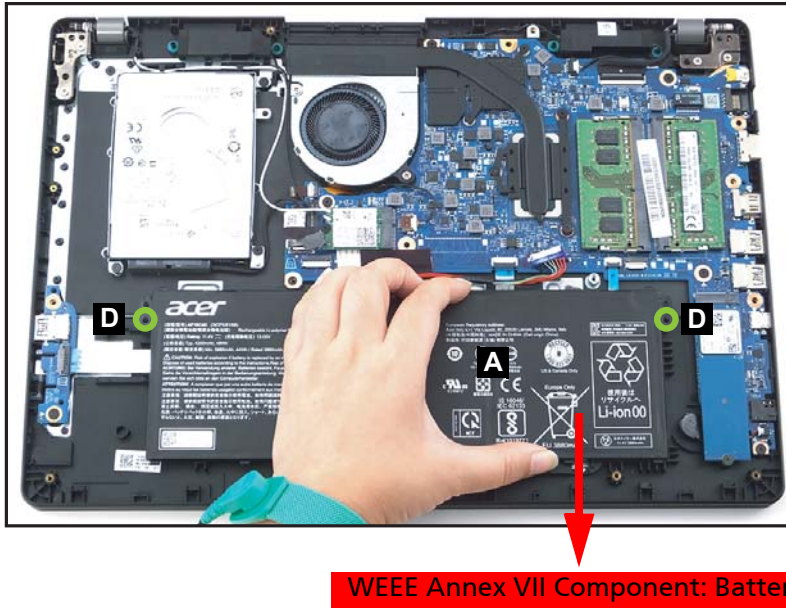

Figure 1-8. Battery Pack Removal
4. Release the battery pack from the guide pins (D) and remove the battery pack (A) from the system (Figure 1-8).